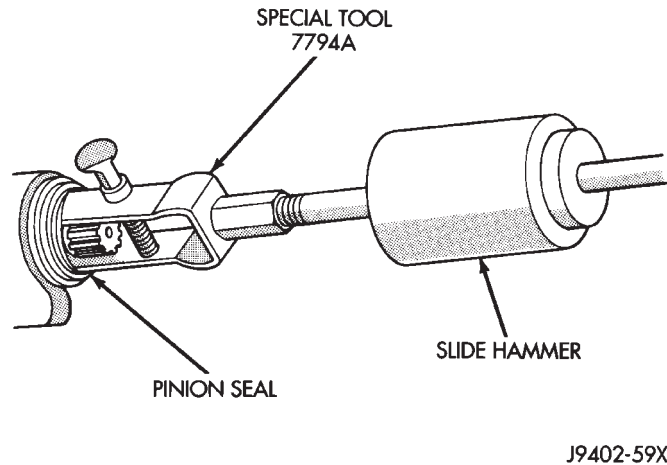

Fig. 16 Seal Removal
(10) Use Remover 7794-A and slide hammer to remove the pinion shaft seal (Fig. 16).
(11) Remove the front pinion bearing using a pair of suitable pick tools to pull the bearing straight off the pinion gear shaft. It may be necessary to lightly tap the end of the pinion gear with a rawhide or rubber mallet if the bearing becomes bound on the pinion shaft.
(12) Remove the collapsible spacer.